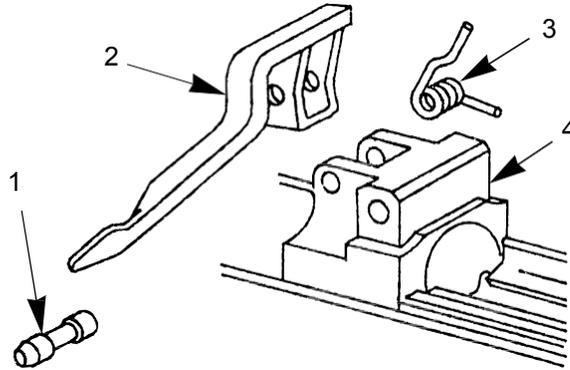
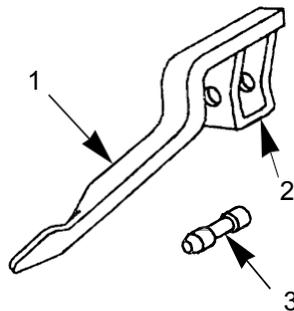

Figure 28. Removal of Barrel Locking Lever.
Figure 29. Inspection of Barrel Locking Lever and Grooved Headless Pin.
1. Drive out grooved headless pin (Figure 28, Item 1) from the right to the left.
2. Remove barrel locking lever (Figure 28, Item 2) and torsion spring (Figure 28, Item 2) from receiver assembly (Figure 28, Item 4) and discard torsion spring (Figure 28, Item 2).
3. If barrel locking lever (Figure 28, Item 2) does not lock, barrel assembly into receiver assembly (Figure 28, Item 4) or if locking area (Figure 29, Item 2) is chipped or rounded, replace barrel locking lever (Figure 28, Item 2).
1. Visually inspect barrel locking lever (Figure 29, Item 1) for bent, cracked or broken arm, and replace if damaged.
2. Visually inspect grooved headless pin (Figure 29, Item 3) for burrs or breaks, and replace if damaged.